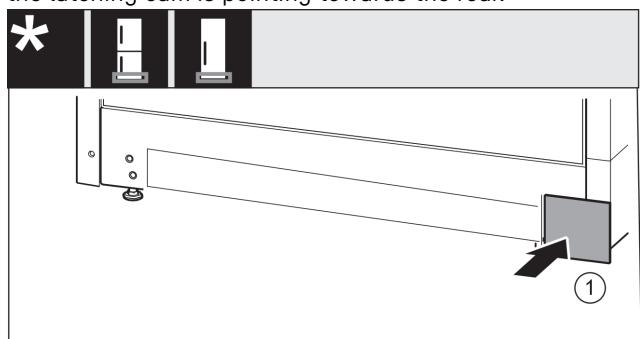

Fig. 17
- ▶ Re-attach the cover Fig. 17 (1) to the other side.